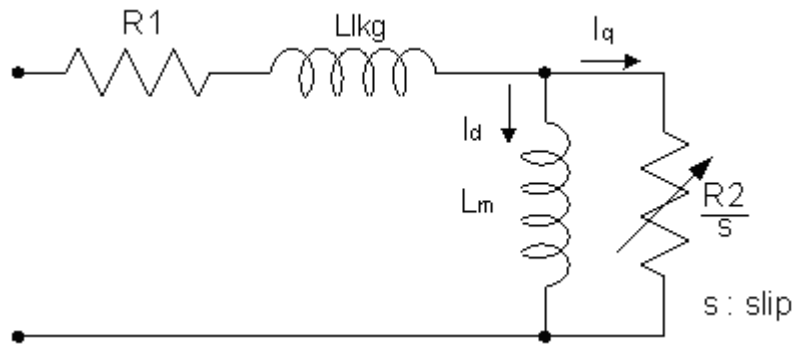

Figure 4.3.15 Y-equivalent model of the induction motor
- (11) Resistance R1between wires of motor (02-15).
- (12) Leakage inductance of motor Llk (02-17).
- (13) Mutual inductance of motor Lm (02-18).
- (14) Motor rotor's equivalent resistance R2 (02-16).
- (15) Current of motor without load (02-00).
- . Refer to Y-equivalent model of the induction motor shown in Figure 4.3.15.